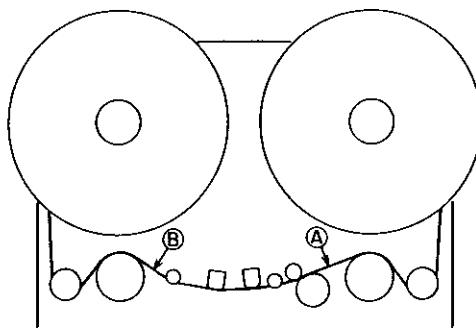

Fig. 4.10
- 2) Put the R-8 in the PLAY mode, and measure the Take Up tape tension at point **(A)** with tape tension gauge as shown in the Fig. 4.10.
- 3) Measure the Supply tape tension at point **(B)** with tape tension gauge as shown in the Fig. 4.10. Adjust the pot R203 located on the system control PCB so that the Supply tape tension is 60g (2.2 ozs.).